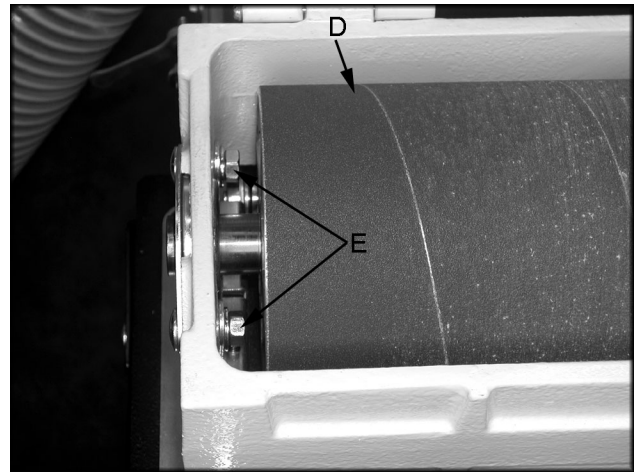

Fig. 17
1. Remove abrasive strip (D, Fig. 17) from drum.
2. Loosen all four bearing hex nuts (E, Fig. 17).